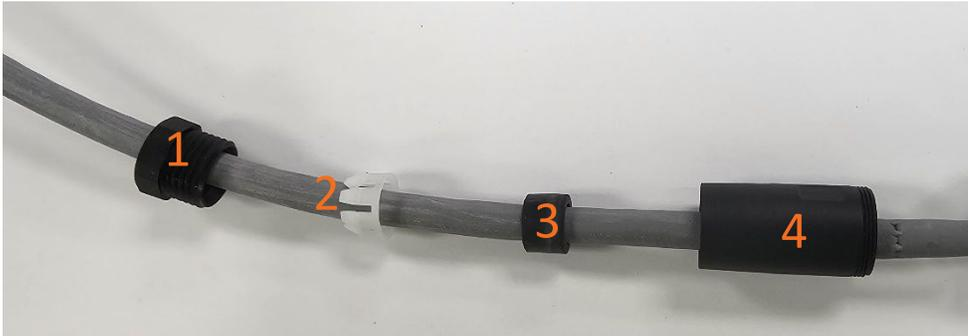

Figure 8
- [7] Slide connector parts over the cable in this sequence: pressure screw (1), clamping cage (2), Gasket (3), threaded sleeve (4). Orientation of each part as shown in Figure 8 is important.